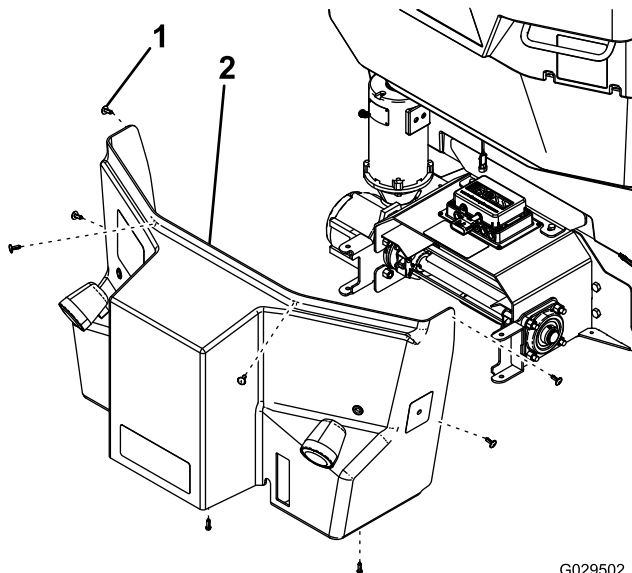

Figure 1
- For VBX spreaders, remove the plastic clips securing the rear cover to the hopper (Figure 1).